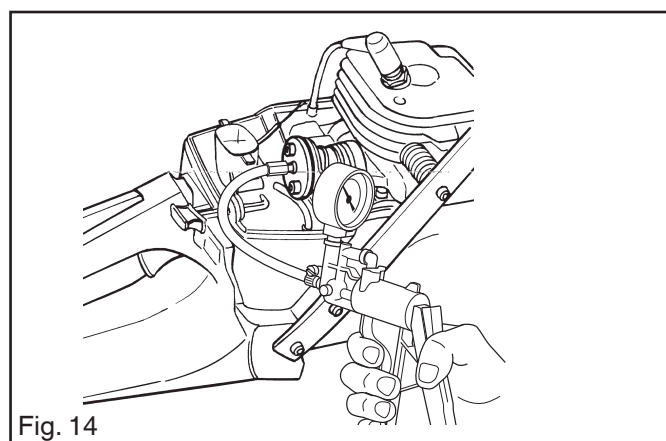

Fig. 14
4. Connect pressure testing tool (*Refer to pos. 3 "3 Service tools" on page 8*) to the cover plate on the intake manifold. See fig. 14. The decompression valve should be closed.